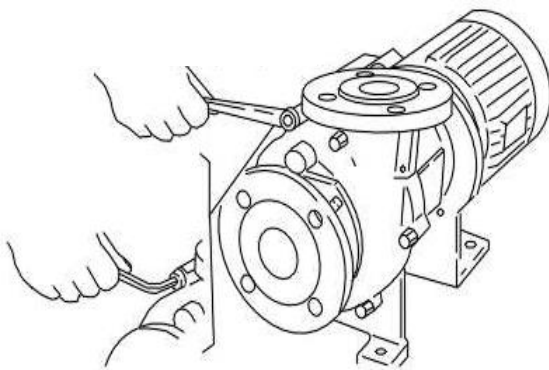

Figure 8
2. Remove the hex head or socket bolts (903.1 & 903.2) and pull the front casing straight forward to detach from the frame (19). [Fig. 8 & 9] Be careful not to damage the spindle when removing the front casing. The spindle may come off with the front casing. If this happens, take care to not lose the rear thrust collar (314.1).